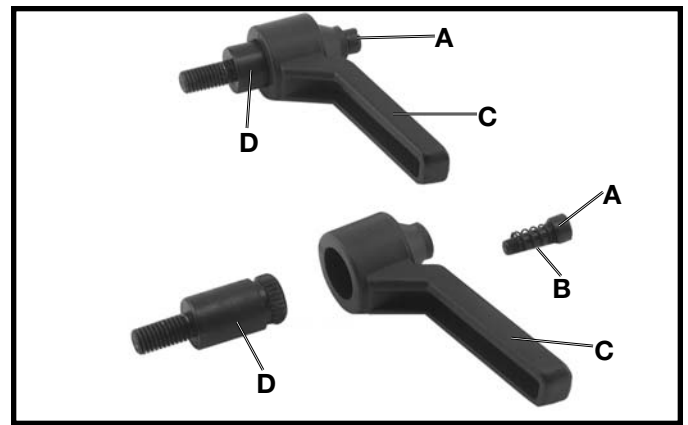
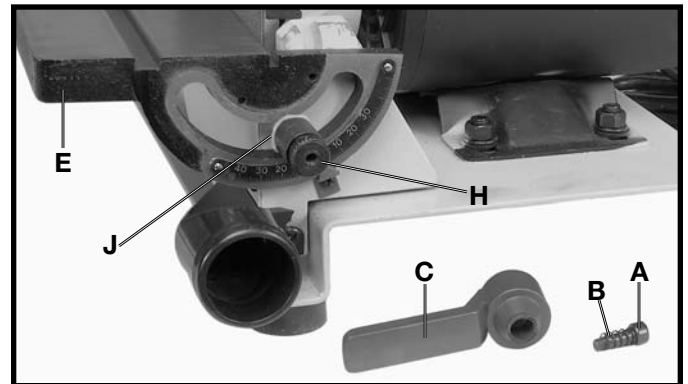

Fig. 13
Fig. 15
2. Two clamp handles are supplied with your machine, one for the belt sander table and one for the disc sander table. Disassemble both handles by unscrewing and removing screw (A), spring (B), and handle (C) from locking stud (D), as shown in Fig. 13.
4. Using locking stud (D) Fig. 13, from handle assembly, and 10mm flat washer (J) Fig. 15, thread locking stud (H) Fig. 15, into threaded hole in base casting to hold table assembly (E) in place, as shown.
5. Assemble handle (C) Fig. 15, to locking stud (H) and fasten with screw (A) and spring (B).